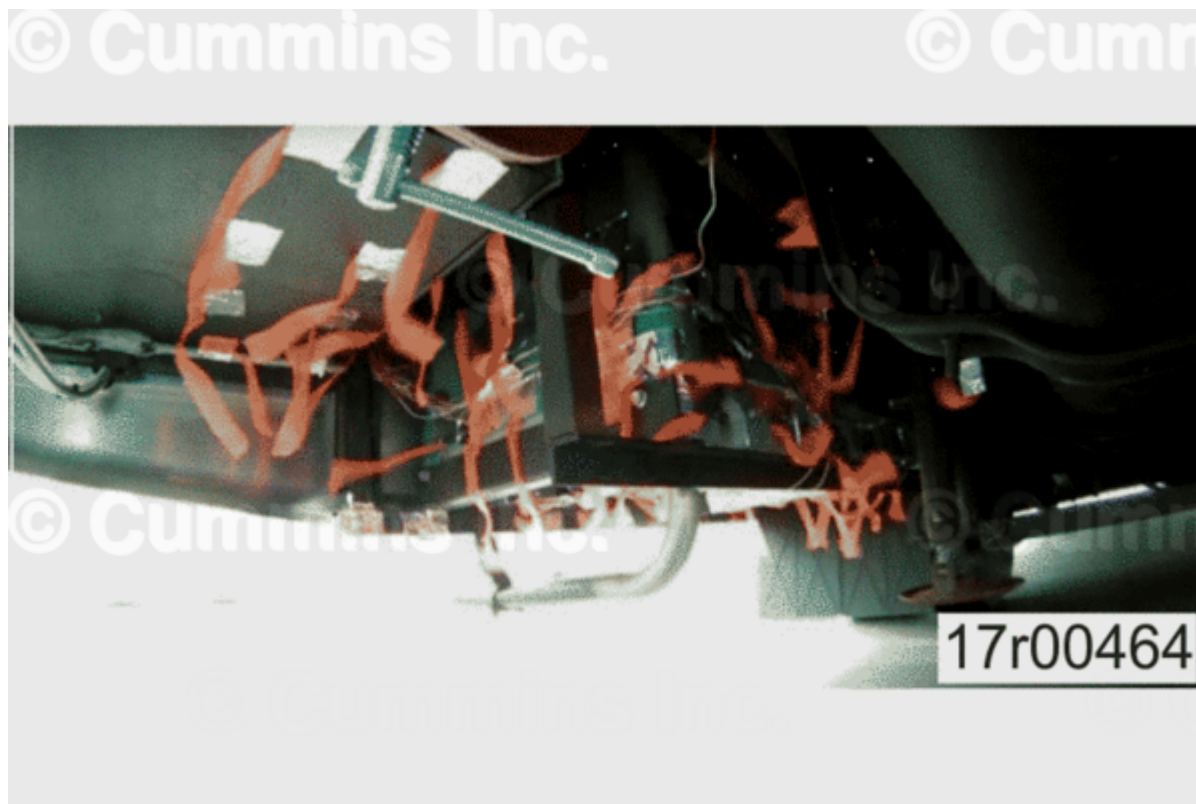

Figure 2, Marker Flags
- c. A method to see how the air is flowing underneath the generator set is to tape some yarn, dental floss, or marker flags (Figure 2) in various locations underneath the generator set.